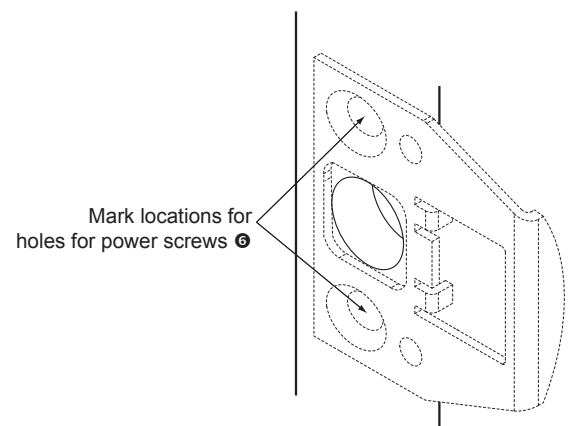
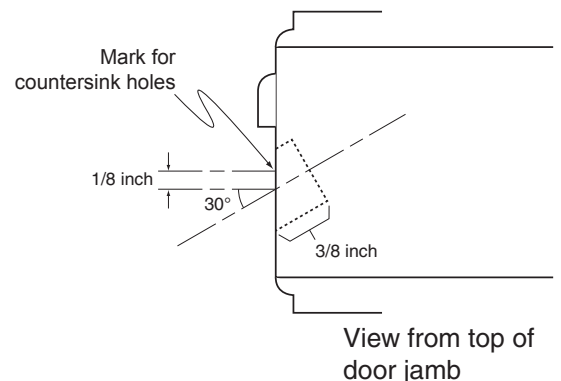

Figure 12
Figure 13
- Holding the **striker plate** in position, mark the position of two recessed holes in the striker plate (Figure 12) in the mortise of the door frame. Using the 3/4" drill bit, start a hole 1/8" in front of the hole marks and a 3/8" deep hole at a 30 degree angle (Figure 13). Position the **striker plate** to make sure it fits flush in the mortise. Hold the **striker plate** in position, close the door and activate the lock to verify both deadbolts clear the striker plate when thrown. Correct as necessary and then using the 3/32" drill bit, predrill the two small positioning holes in the **striker plate**. Using the 2 small flat head wood screws ⑤ in the small screw package, attach the striker plate. Close door and verify that the deadbolts clear the striker plate. Using the 5"-5/32" drill bit provided, predrill the holes for the 3-1/2" mounting screws at a 30 degree angle, to a depth of the full length of the drill bit. Set the torque on your power drill and using a #2 bit slowly screw the 3-1/2" screws into the door frame, applying firm pressure on the bit. Close the door and recheck the functioning of the lock.